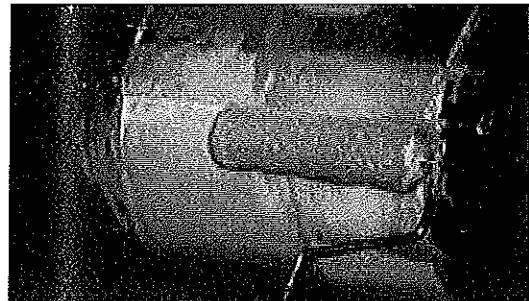

Figure 11
- 4.10 Ensure sufficient filler material is applied to the area where the leading edge of the Clock Spring® will be positioned (Figure 11). Filler is required to ensure intimate contact at the point where the first layer of the Clock Spring® overlays the second layer.